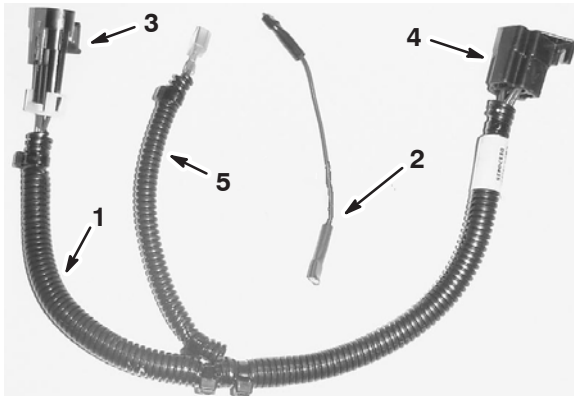

Figure 2
3. Locate the front key start harness (Fig. 2) in the loose parts. Vehicles built in the model year 2003, serial number 239999999 or lower will require the ignition switch conversion extension to match with the ignition switch.
5. Connect the key start lead from the front key start harness to the vehicle (Fig. 2).
Note: If the barbed terminal has a protective sleeve on it, cut the sleeve off before installation (Fig. 2).